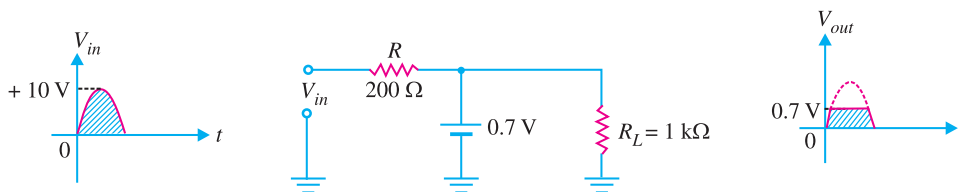

Fig. 18.32
**Positive half-cycle.** During the positive half-cycle of the input ac signal, the diode is forward biased. Therefore, diode can be replaced by its simplified equivalent circuit as shown in Fig. 18.32. Since the load is connected in parallel with the diode,